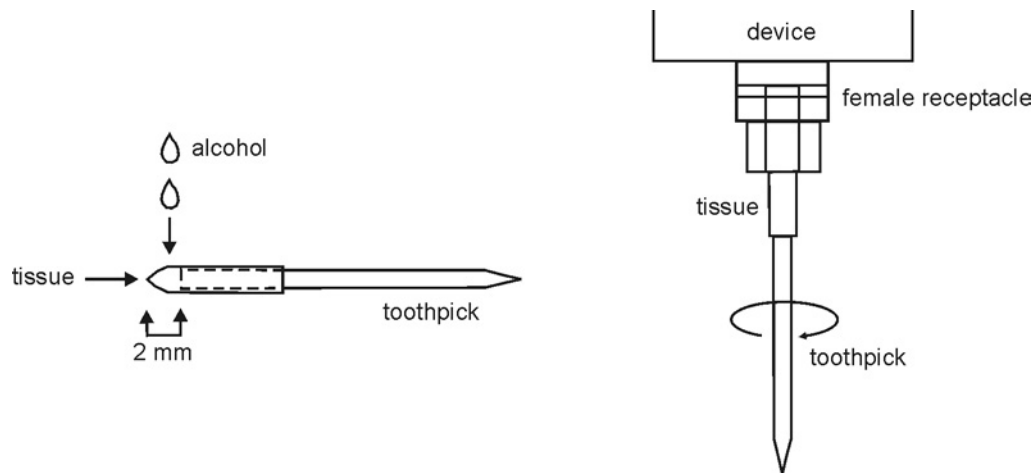

Figure 8: Cleaning Female Receptacles
6. Wrap a single leaf of lint-free tissue, about 25 mm (about 1.0 in) square, around the flat end of the toothpick, as shown in Figure 8. The tissue must be wrapped smoothly and tightly and extend approximately 2 mm past the end of the toothpick. Taper the end of the paper slightly.